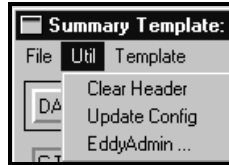

Figure 3-86. Summary Dialog - Util Menu
As shown in Figure 3-86, the **Util** menu on the **Summary** dialog contains three (3) menu choices. They are: **Clear Header**, **Update Config**, and **EddyAdmin ...**, which are discussed below.
- ❑ **SUMMARY > Util > Clear Header:** Selecting **Clear Header** from the **Util** menu on the **Summary** dialog shown in Figure 3-86 causes the information in most of the fields of the **Summary** dialog to be *cleared* while other fields are set to default values. This function is typically used more so during acquisition vs. data analysis.
- ❑ **SUMMARY > Util > Update Config:** Selecting **Update Config** from the **Util** menu on the **Summary** dialog shown in Figure 3-86 causes the configuration displayed to be updated. The configuration settings are displayed with a yellow background in the upper right area of the **Summary** dialog. These settings include channels, inspection frequencies, span settings, rotation settings, coils in use, etc. The configuration settings are typically set during acquisition vs. data analysis.
- ❑ **SUMMARY > Util > EddyAdmin ...:** Selecting **EddyAdmin ...** from the **Util** menu on the **Summary** dialog shown in Figure 3-86 starts the **EddyAdmin** utility. For information on the purpose and use of the **EddyAdmin** utility, please see the topic **Util > Tools > Run EddyAdmin** discussed earlier.